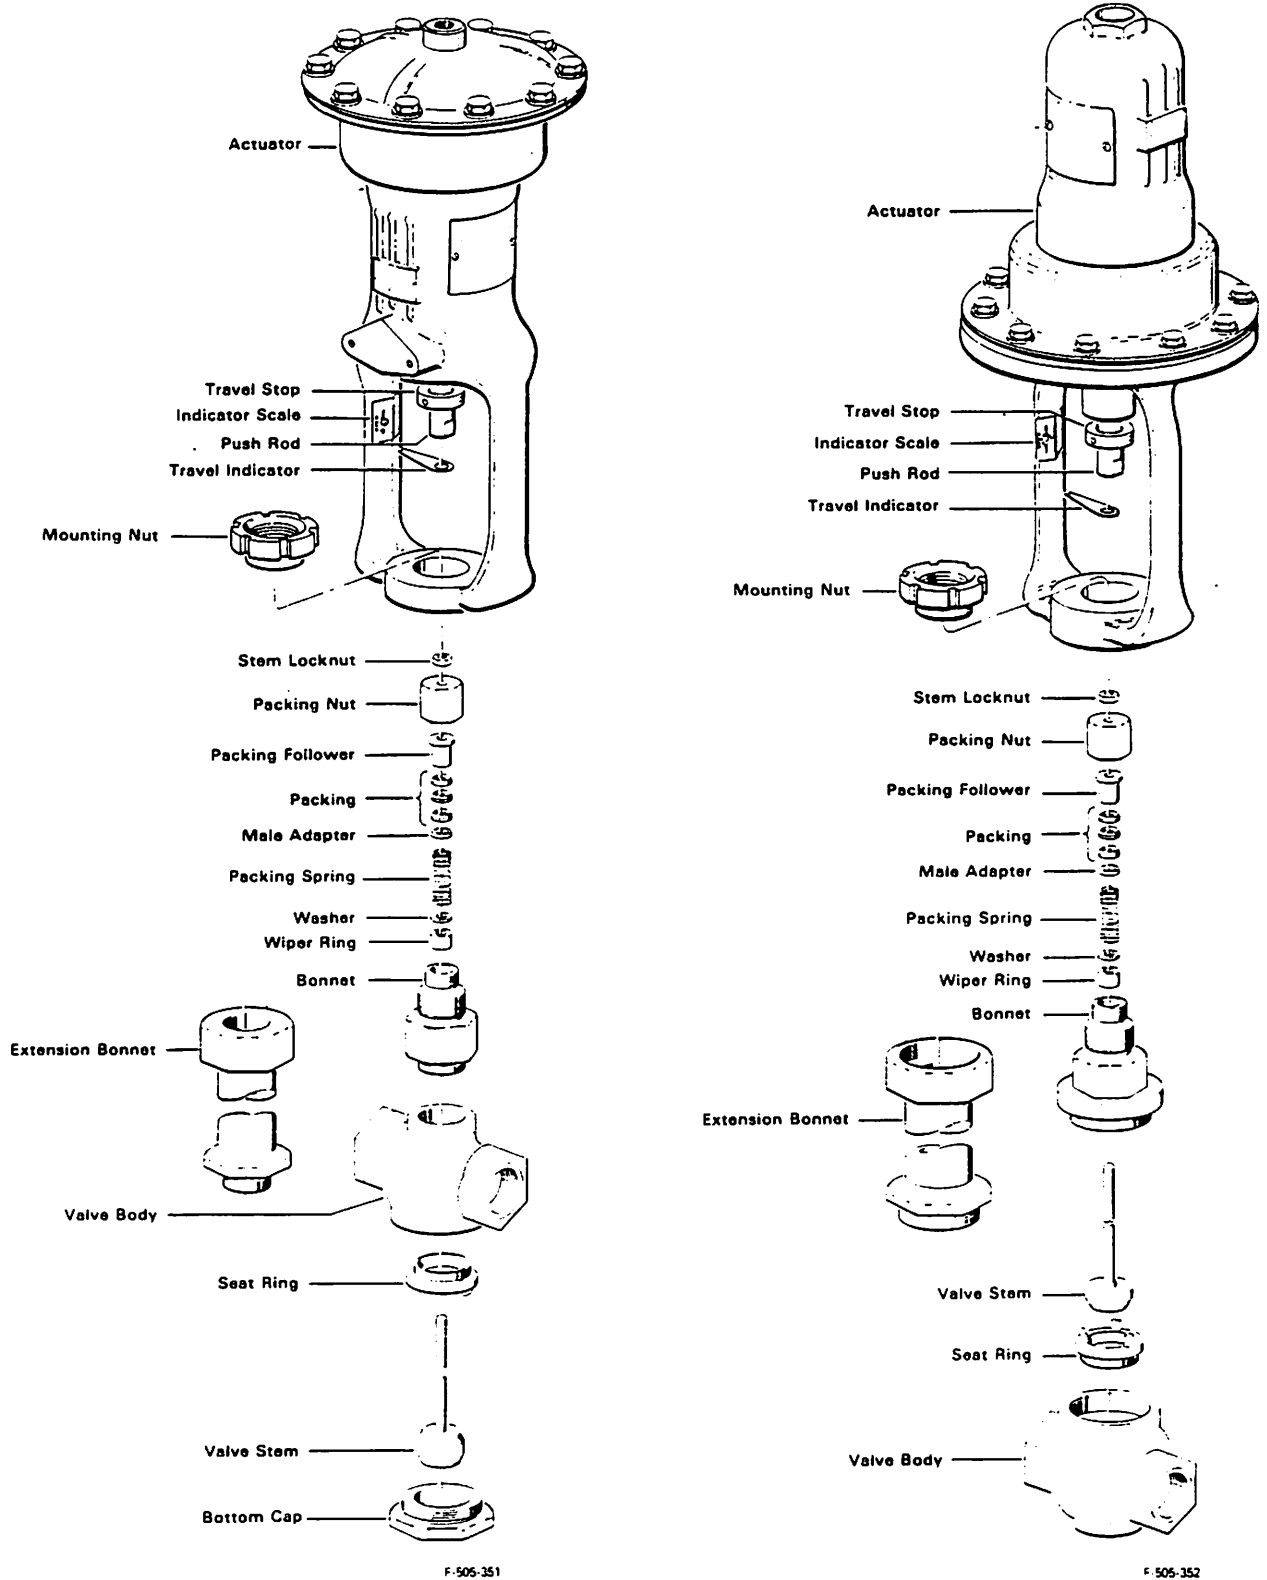

Figure 14. Exploded View of Control Valve
1. Measure length of thread showing below stem locknut, Figure 14 and record this dimension. Loosen stem locknut.
1. If new seat ring, Figure 14, is to be installed, proceed as follows:
- a. **Push-to-close valve**, Figure 14 — Insert stem into bonnet. Coat threads of bonnet with Plastic Lead Seal and screw bonnet into valve body. Tighten bonnet to torque specifications listed in Table 3.